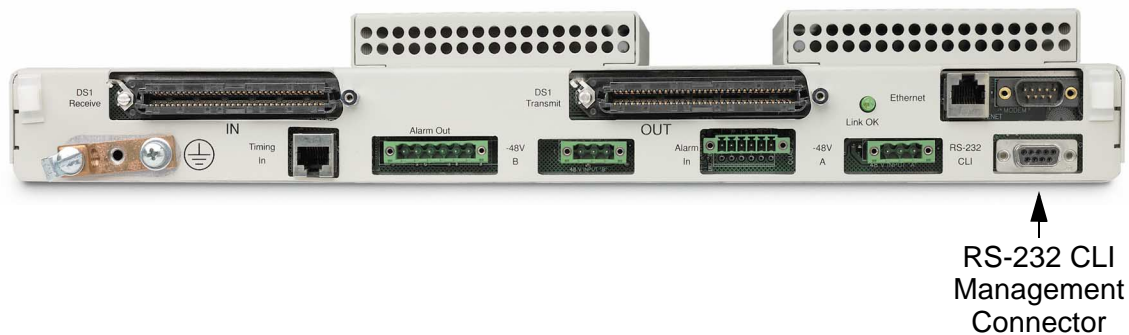

Figure 6-9. Location of RS-232 CLI Connector
1. Connect RS-232 cable with DB9 (DE9) connector on one end to RS-232 CLI management connector on rear panel of Access Navigator (see Figure 6-9).